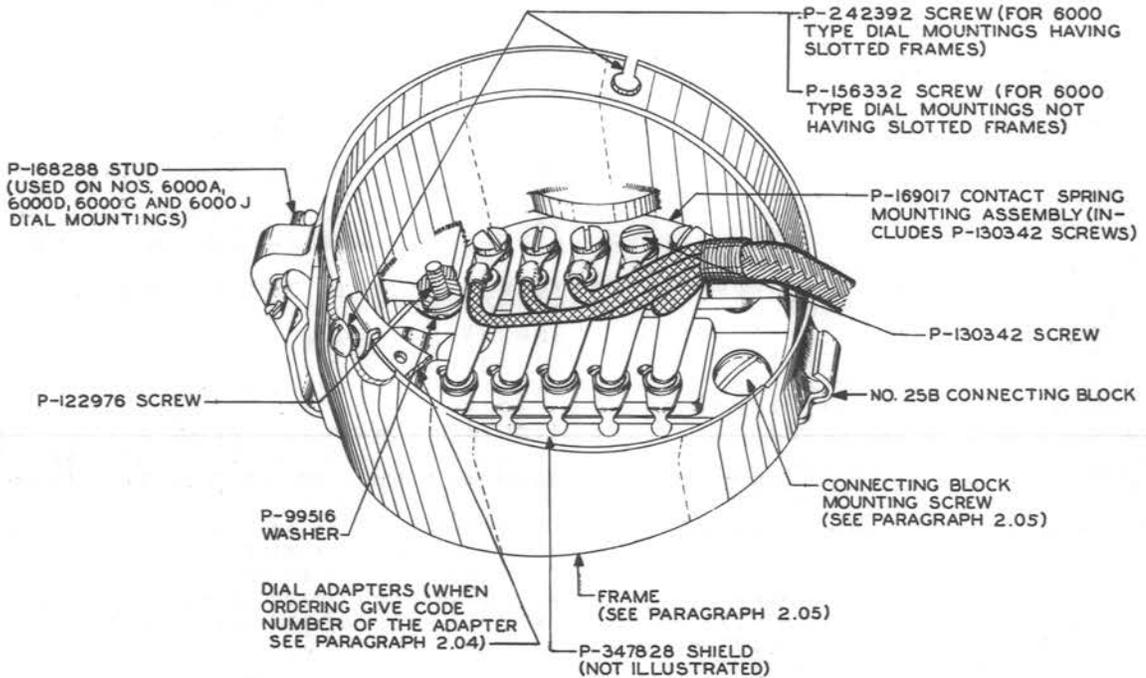

Fig. 10 - 6000-type Dial Mounting
2.04 The following is a list of replacement dial adapters required for mounting dials on the dial mountings shown in Fig. 10 and 11.